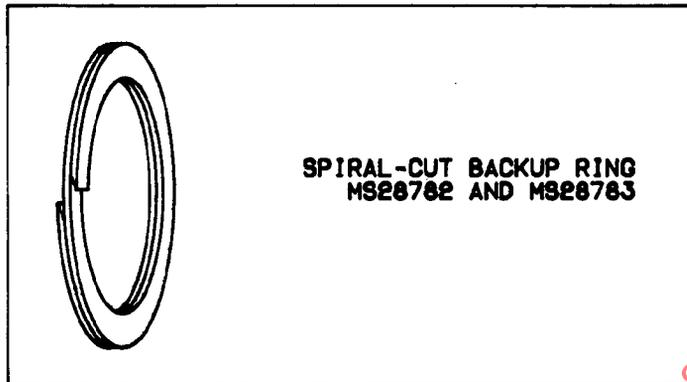

FIGURE 7
6.1 Spiral Backup Rings MS28782 and MS28783: Spiral-cut backup rings (Figure 7) provide excellent extrusion protection for many O-ring applications. They are recommended for Type I (-65°F to +160°F) Class 1 (1500 psi) and Class 2 (3000 psi) hydraulic systems per MIL-H-5440, but are not recommended for Type II (-65°F to +275°F) Class 1 and 2 hydraulic systems or for use with universal fittings (MS21344 or MS33566).